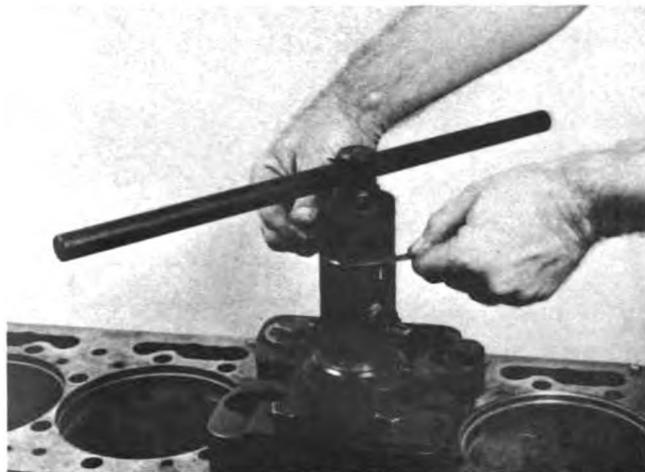

Fig. 1-15. Set The Depth Of The Cut.
- b. Put a feeler gauge of the same thickness as the material to be cut from the counterbore between the body of the drive assembly and adjusting collar, Fig. 1-15.